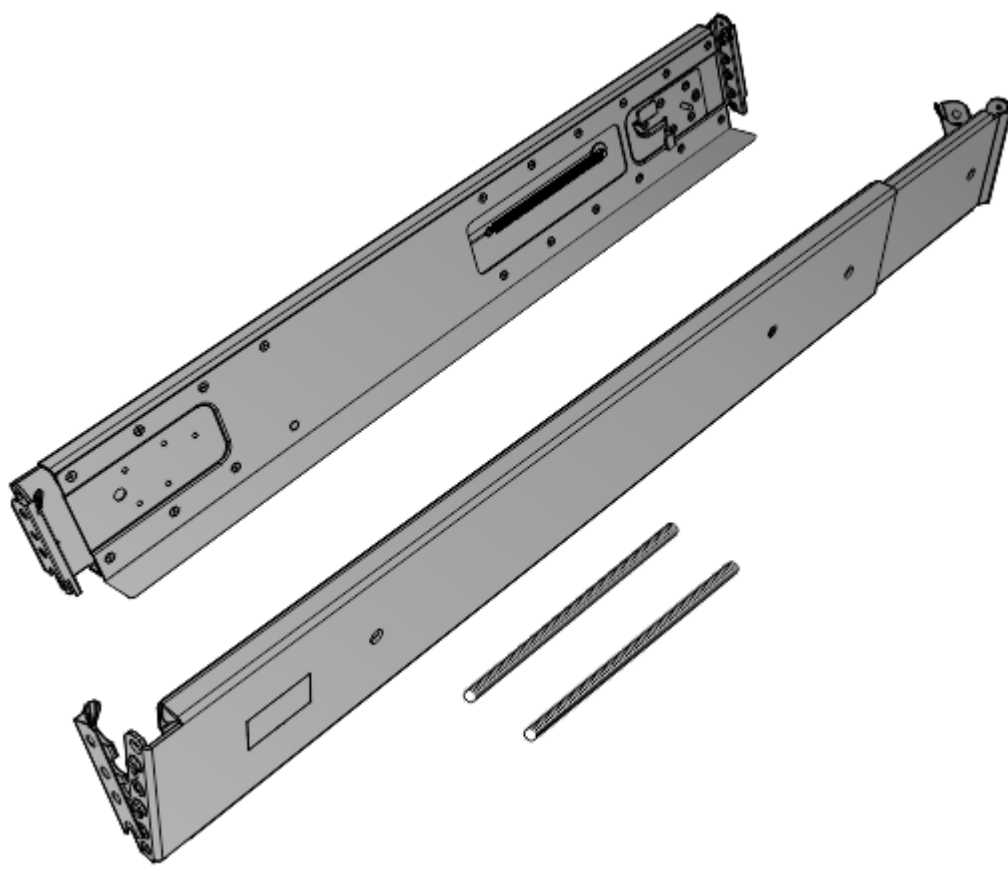

Figure 11. Enclosure support rails
1. Locate the enclosure rails (Figure 11 on page 16).